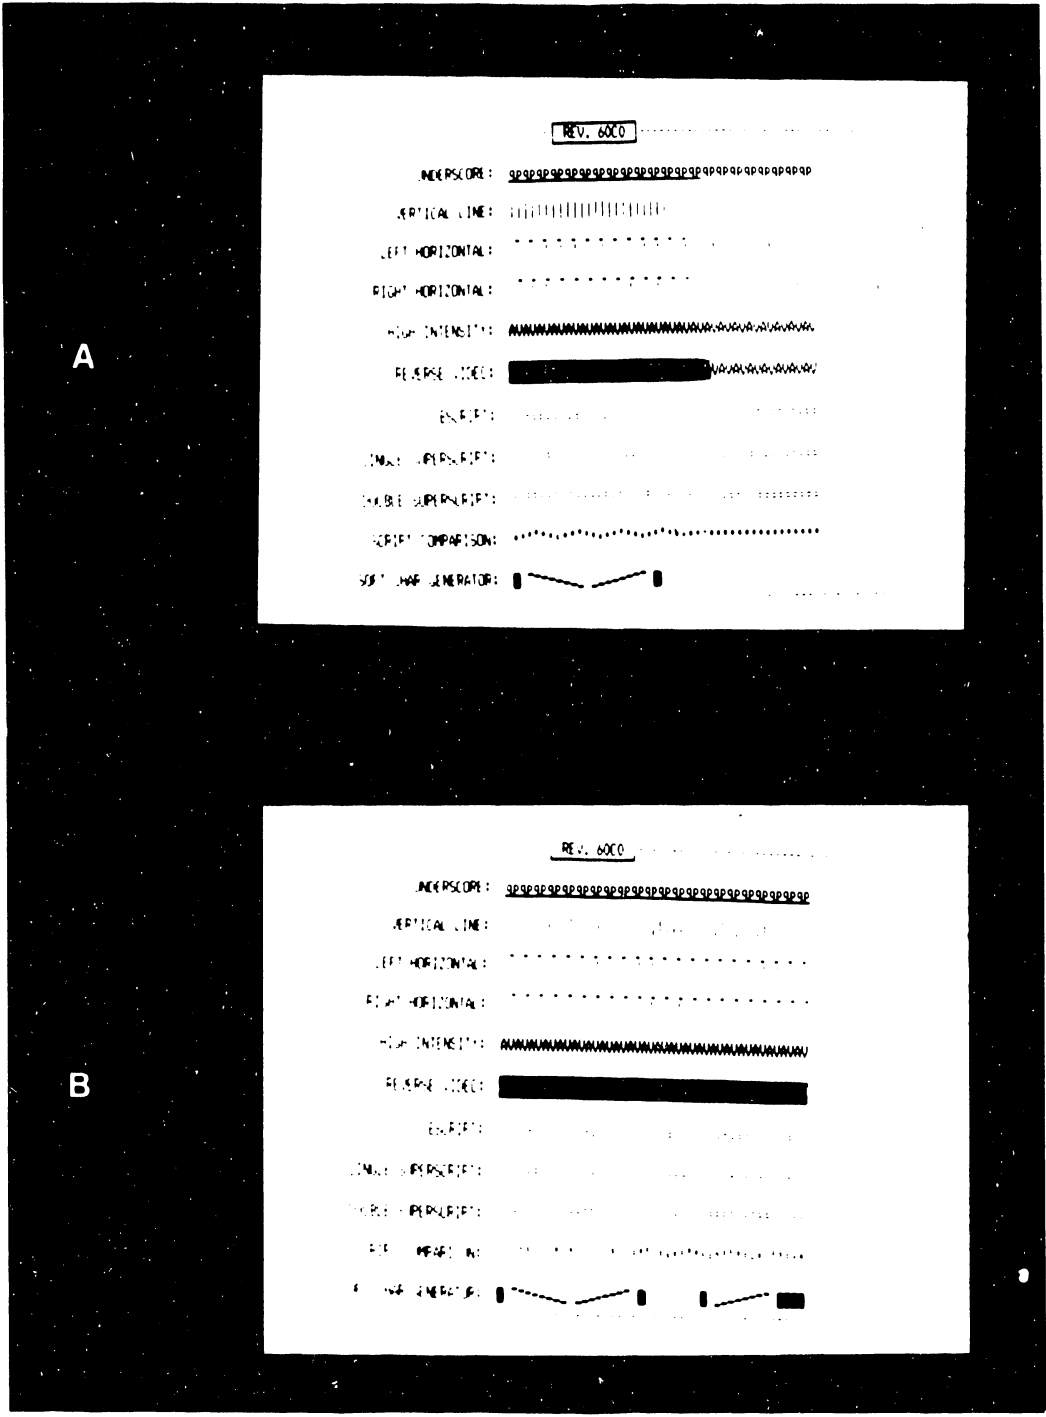

FIGURE 8-3 DISPLAY ATTRIBUTES
Display Attributes (Figure 8-3)
Applications of the various attributes progress repetitively across the display, left to right. Figure 8-3 shows the sweep: part way (A) and full way (B) across the display.